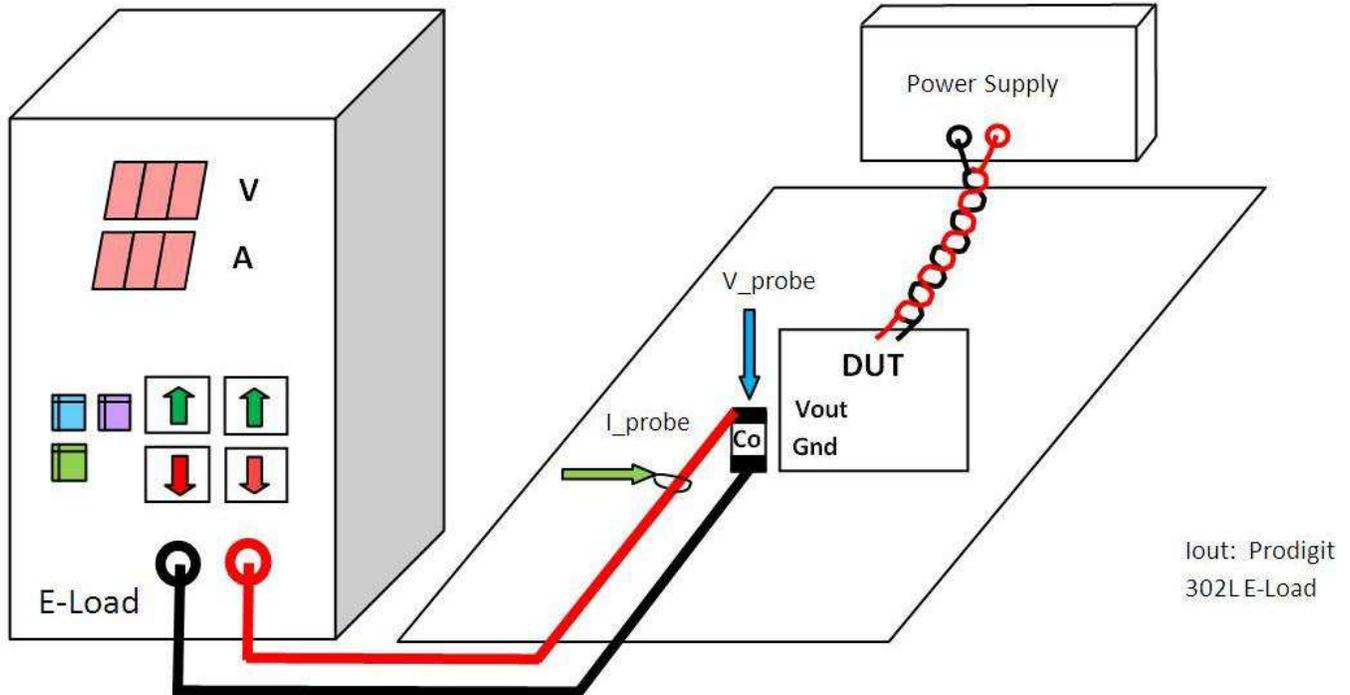

Figure 4. Using a Commercial Electronic Load Test Setup
1. **Electronic Load (or E-load as it's often called)** is a device or assembly that simulates loading on an electronic circuit. It is used as substitute for a conventional ohmic load resistor (see Figure 4). Many industrial E-load makers spec their high slew rates capable of 30A/μs and 50A/μs. But if a couple amps is needed, the maximum slew rate obtainable is, unfortunately, about 1A/μs.